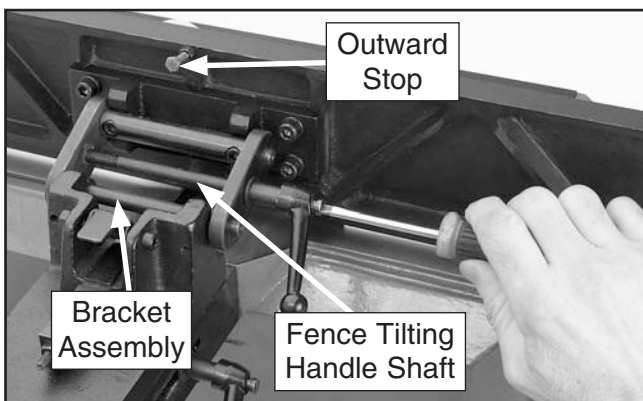

Figure 14. Installing the fence tilting handle.
- Install the fence tilting handle by threading the handle shaft into the bracket assembly, as shown in **Figure 14**.